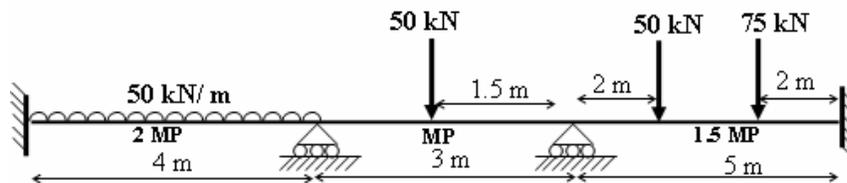

Fig.6
8. Determine the plastic moment capacity of a continuous beam shown in Fig.6. [16]